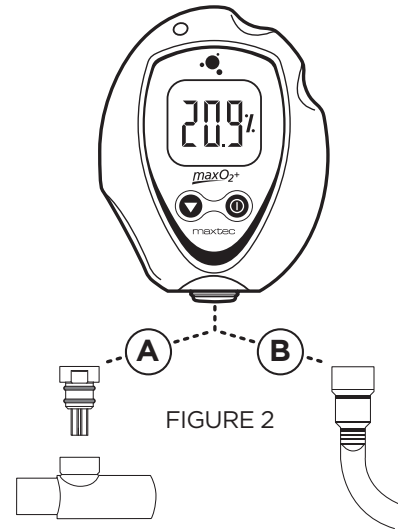

FIGURE 2
1. Connect the Tygon tubing to the bottom of the analyzer by threading the barbed adapter onto the oxygen sensor. (FIGURE 2, B)
2. Insert the MAXO2+ in the center position of the tee adapter. (FIGURE 2, A)
2. Connect the Tygon tube to the barbed adapter. (FIGURE 2, B)